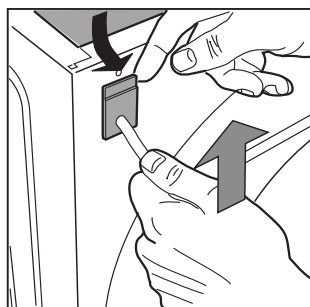

Fig. 5
**4. Remove the upper part** of the cable slightly from the back panel of the appliance, pull the power supply cable upwards and take it out [fig. 5].